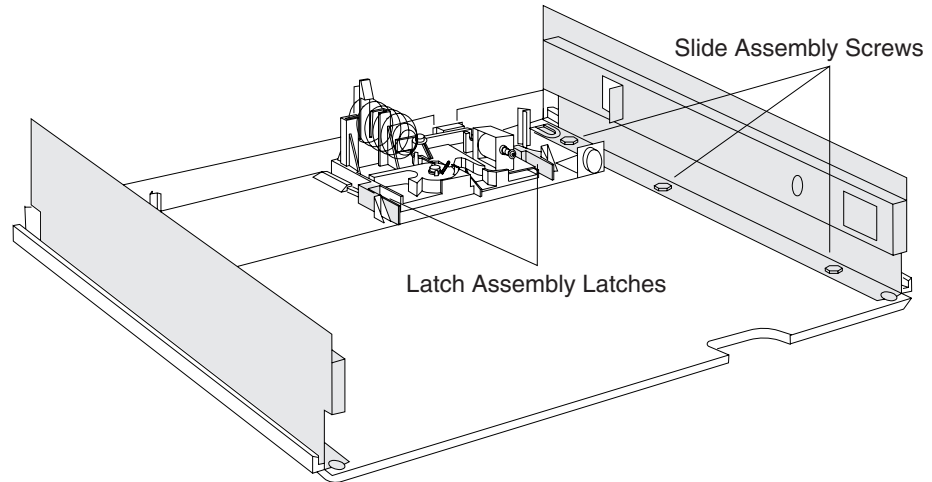

Figure 82. Removing cash-drawer slide assembly
4. Remove the three screws that secure the slide to the base and lift out the slide assembly, as shown in Figure 82 on page 107.
3. Reach in from the front and push the latch on each side of the latch assembly inward while pulling the assembly toward the front (see Figure 82 on page 107).